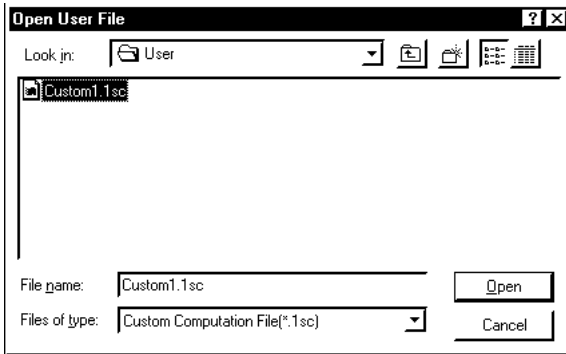

Figure 5.1.4 [Open User File] Dialog Box
- ≠ If you are configuring a custom display using a user file, choose <Open User File>. Click the <Open User File> option button, then the <OK> button. The [Open User File] dialog box (Figure 5.1.4) appears.